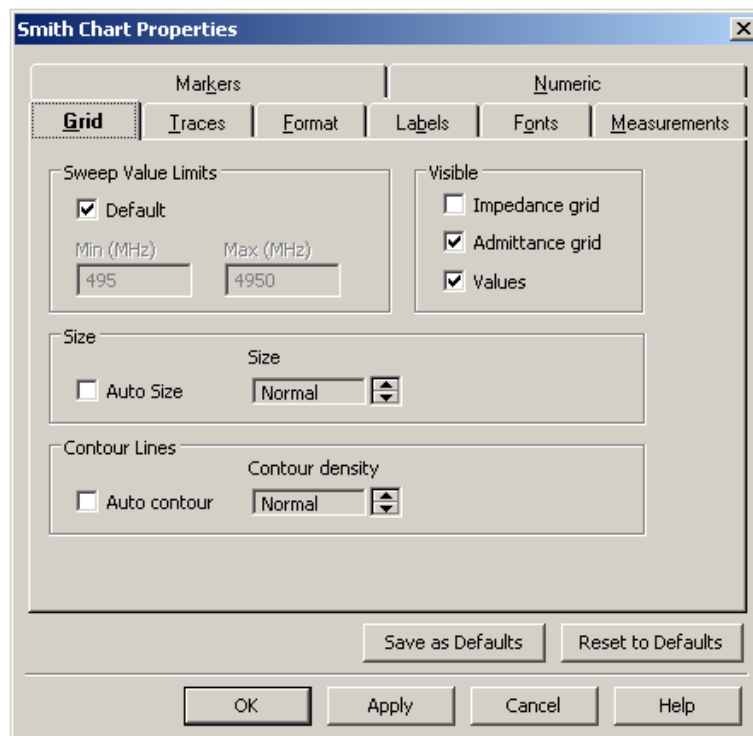

Figure 7.10: Chart 5 : Input Admittance Smith Chart Properties Dialogue Box
- The 'Grid' tab should be set up according to fig 7.10